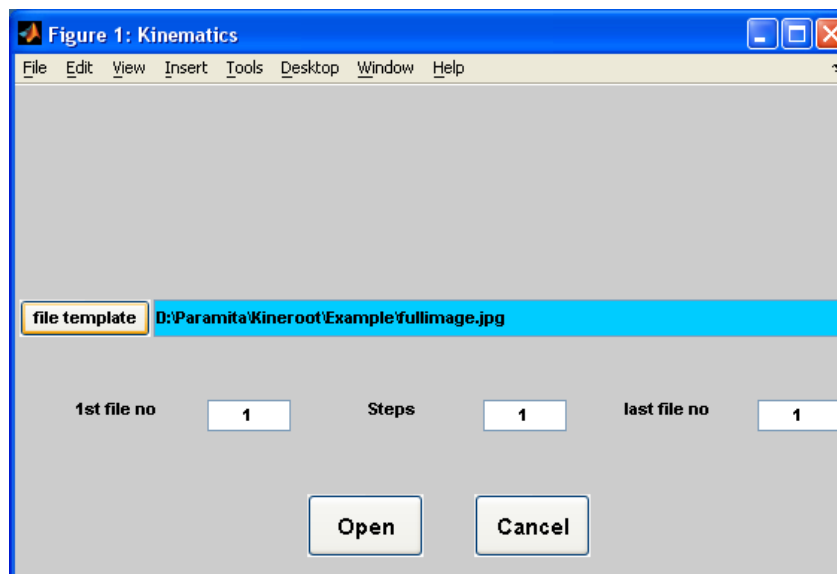

Figure 1
1. To start KineRoot, launch Matlab™, and type “kineroot” in Matlab prompt (without the double quotes) and press enter. It will open a new window (Fig. 1).
6. Click “Read new set of images” button from the right bottom corner to load the sequence of images to be analyzed. When you click this button, a small window will pop up (figure 3). Click “Yes, but keep the scale” button to maintain the calibration information while loading the image sequence for analysis. Then you will be redirected to image loading window shown in Fig. 1 and 4.